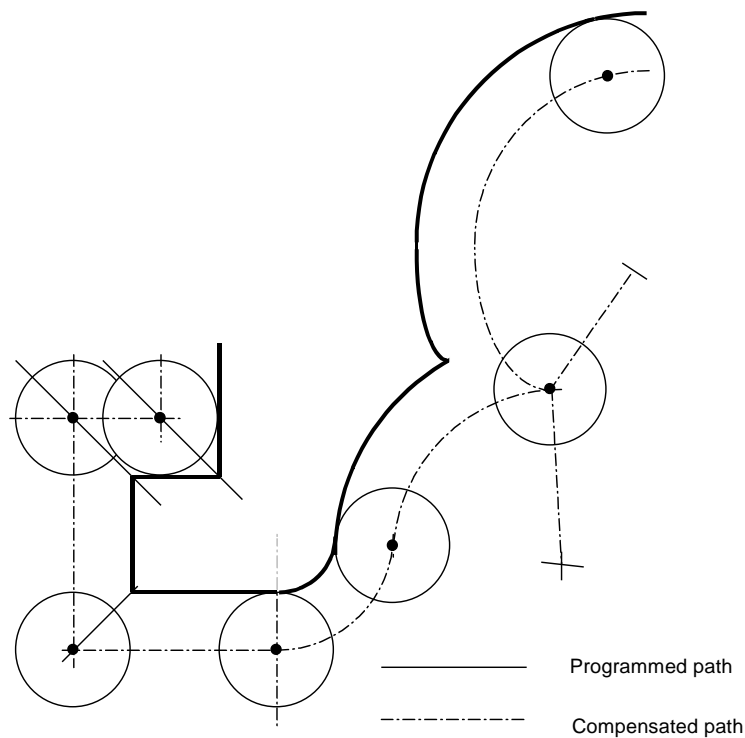

Fig.1 Tool Positioning for Cutter Diameter Compensation
- **Cutter diameter compensation:** it is perpendicular to a programmed profile (fig 1). Since the typical tool section is a circle, the correction is applied to the tool diameter.